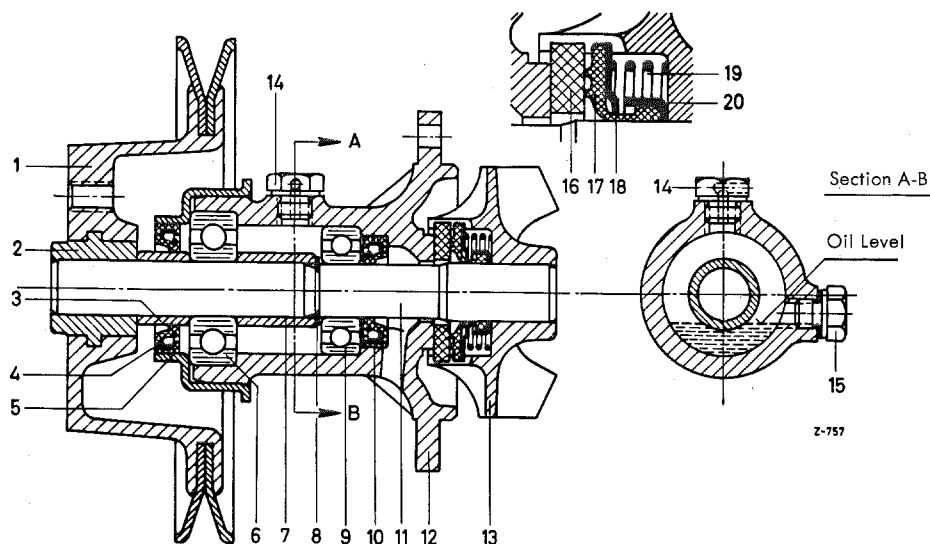

Figure 20-8/8
16. Insert the Woodruff key (8) in the shaft and slip the belt pulley (3) and the impeller (5) on the shaft (see Figure 20-8/7).
18. Now simultaneously force on belt pulley and impeller, so that the belt pulley is stopped by the spacer (12) and the impeller is flush with the shaft end (see Figure 20-8/4).
19. Put the water pump in the assembly fixture 000 589 13 33. Install the lock plate (19) and screw on the hex nut (20) securing the pulley, then tighten with 3 mkg and lock (see Figure 20-8/1 and 20-8/7).